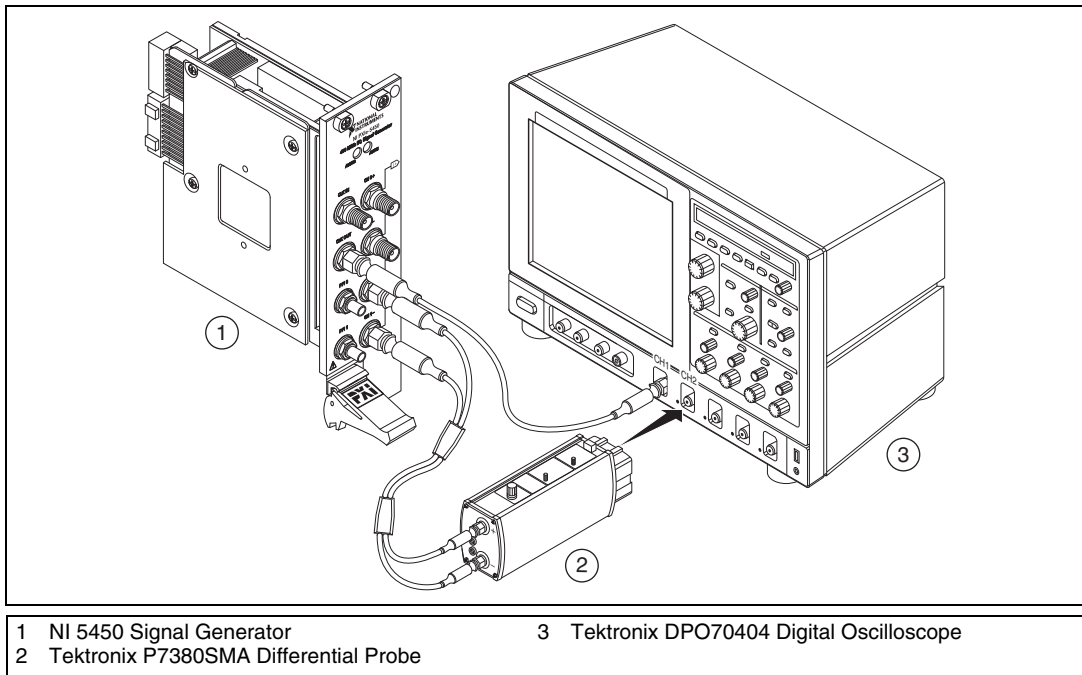

Figure 7. NI 5450 Connection to an Oscilloscope Using a Differential Acquisition Probe (CH 1)
14. Connect the devices as shown in Figure 7.